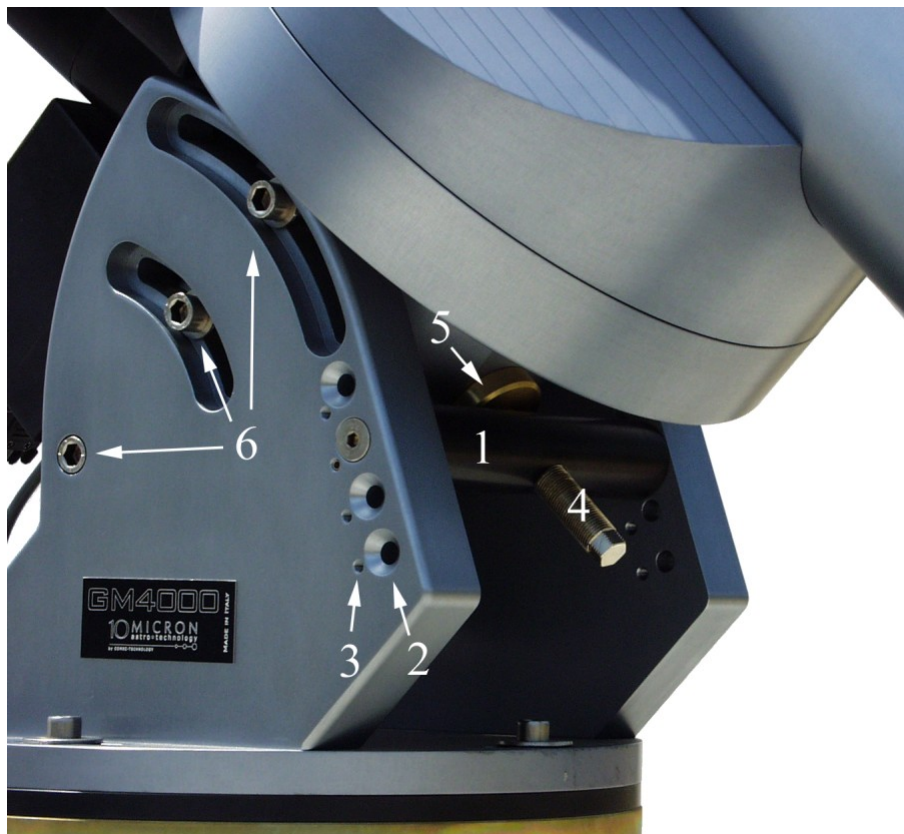

Fig. 4.9: Altitude adjustment system.
The altitude of the R.A. axis must match the latitude of your observing site. Refer to Fig. 4.9 for locating all the relevant parts of the mount.
1. Loosen the six altitude locking screws (Fig. 4.9, n.6) about a half turn.